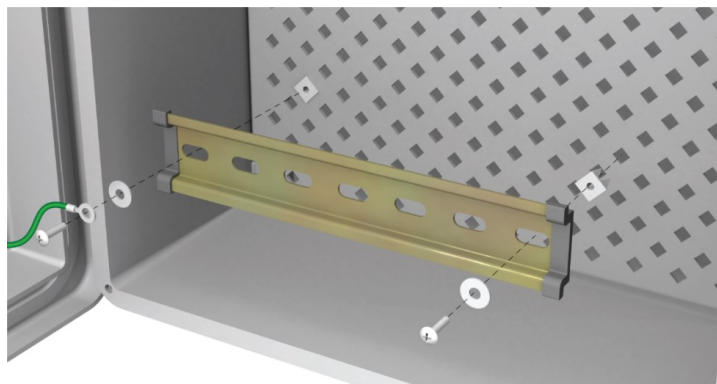

FIGURE B-4. Mounting the DIN rail and ground wire
3. Insert grommets into the two holes noted in step 2 (FIGURE B-4 (p. 34)). Secure the DIN rail to the backplate with the screws and washers included with the DIN rail. If a ground wire is included, slide the eyelet on one end of the ground wire over one of the mounting screws prior to securing the DIN rail. The other end of the ground wire is secured to the enclosure ground terminal.